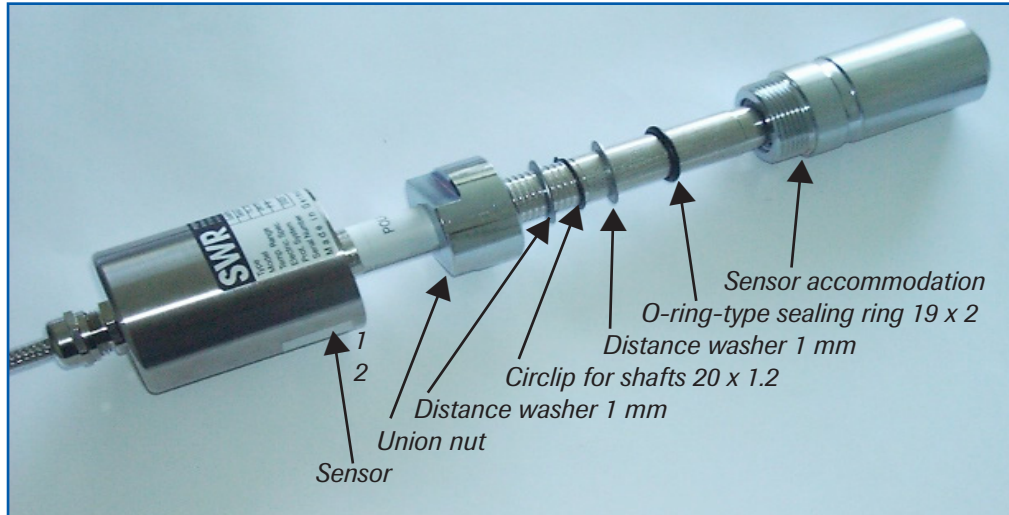

Fig. 5a: Installation of sensor accommodation and sensor
- Now the sensor is put into the sensor accommodation and screwed with the union nut according to figure 5a.